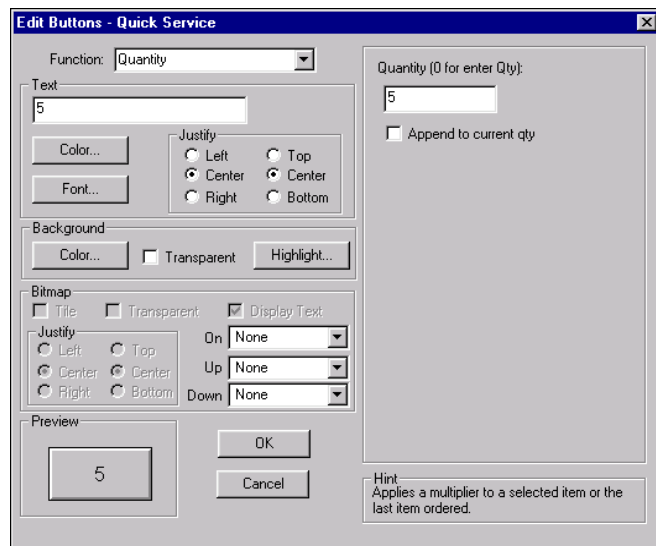

Figure 5-95 Quantity Button Function
1. Select **Quantity** from the **Function** drop-down list. Additional options display, as shown in Figure 5-95: